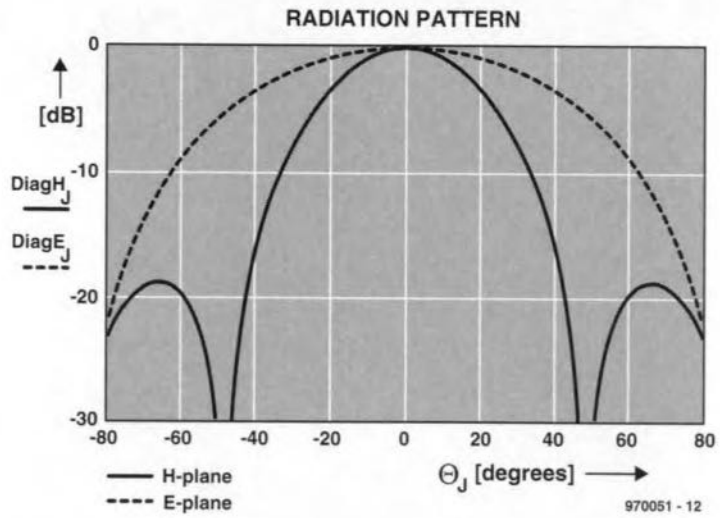

Figure 2. Radiation patterns of the MDU1000 in the horizontal (H) and elevation (E) planes.
The distribution of the transmitter power in the horizontal (H) and vertical (E, elevation) planes is shown in Figure 2. Note that the indicated power levels are relative, i.e. 0 dB in the graph corresponds to the maximum transmitter power of +13 dBm. The side lobes in the H-plane are normal for a microwave exciter designed for wide radiation in the X-band, i.e. without a WG16 waveguide flange. The -3-dB (half-power) angles are 36° and 72° for the H and E plane, respectively.